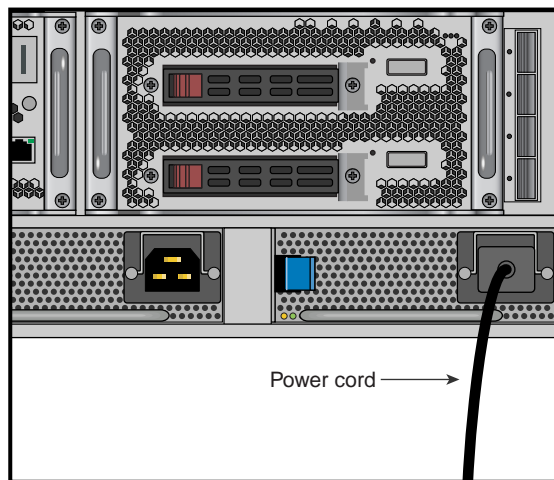

Figure 1-1 IRU Power Supply Cable Location Example
2. For each individual IRU that you want to power on, make sure that the power cables are plugged into all the IRU power supplies correctly, see the example in Figure 1-1 on page 3. Setting the circuit breakers on the PDUs to the “On” position will apply power to the IRUs and will start the CMCs in the IRUs. Note that the CMC in each IRU stays powered on as